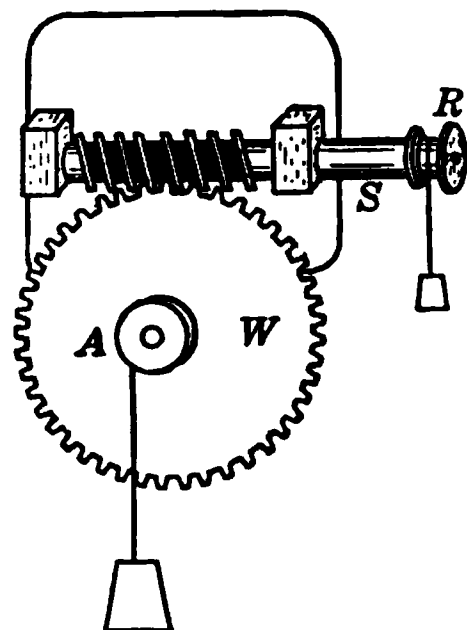

FIG. 155. — Worm gear. See also Fig. 541.
When the screw *S* of the *worm wheel*, shown in Fig. 155, is given one complete turn, the wheel
27. The lever of a worm wheel similar to that shown in Fig. 155 is 2 ft. long. The wheel has 90 cogs. If the axle has a diameter of 4 in., what load can be lifted by a force of 10 lb.?